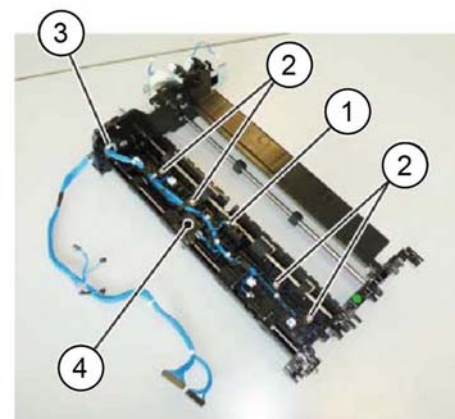

Figure 1 Sensor bracket assembly removal
11. Remove the sensor bracket assembly, **Figure 1**:
- a. Disconnect the connector (1).
- b. Remove four screws (2).
- c. Remove the wire harness (3) through the hole.
- d. Remove the sensor bracket assembly (4).